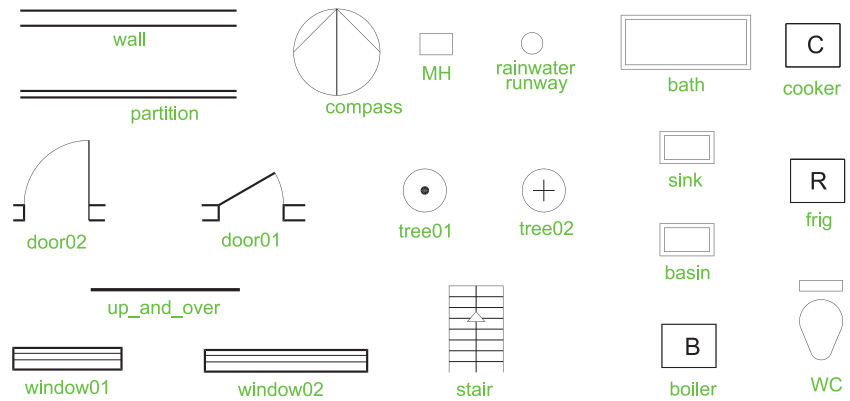
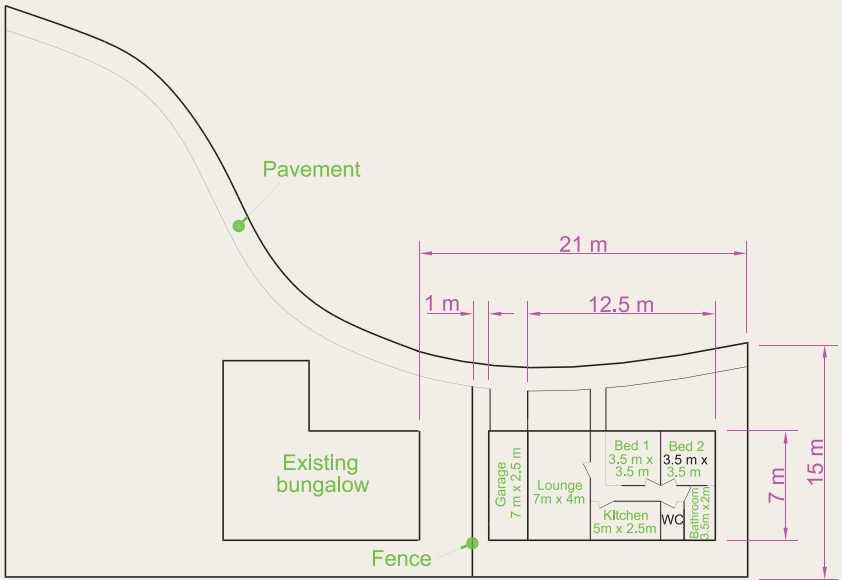
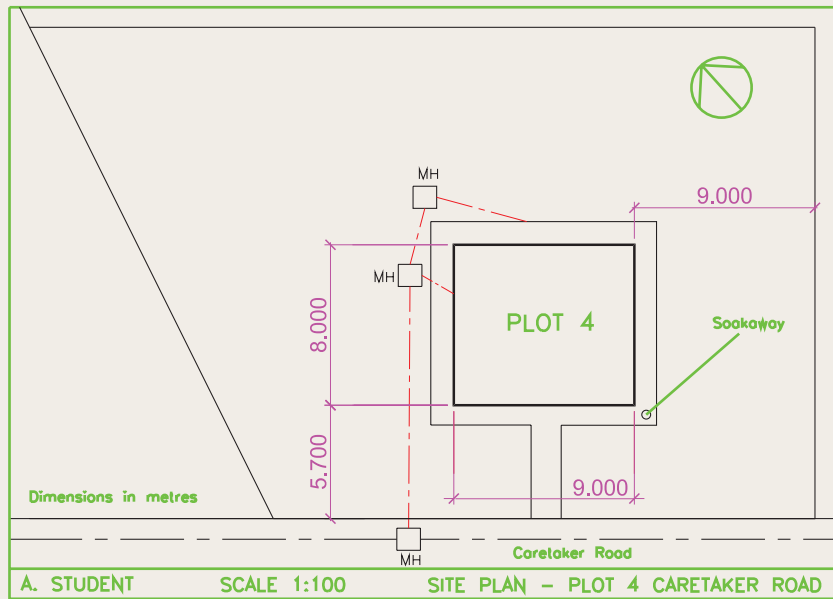

Fig. 16.8 A small library of building symbols
Fig. 16.28 Exercise 1
Fig. 16.30 Exercise 3 – site plan
When constructing floor layout drawings it is advisable to build up a library of block drawings of symbols representing features such as doors and windows. These can then be inserted into layouts from the **DesignCenter**. A suggested small library of such block symbols is shown in Fig. 16.8.
- 1. Fig. 16.28 is a site plan drawn to a scale of 1:200 showing a bungalow to be built in the garden of an existing bungalow. Construct the library of symbols shown in Fig. 16.8 on page 308 and by inserting the symbols from the DesignCenter construct a scale 1:50 drawing of the floor layout plan of the proposed bungalow.
3. Fig. 16.30 shows a scale 1:100 site plan for the proposed bungalow 4 Caretaker Road. Construct the floor layout for the proposed house shown in the drawing Fig. 16.28.